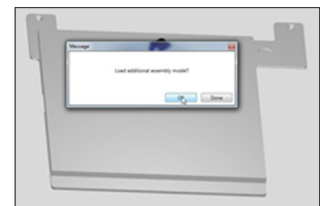

Fig. 73
2. Open the first part of your .stl assembly file, a screen will appear asking if you wish to add an additional assembly model. Selecting OK will bring back the open file window. (Fig. 73)